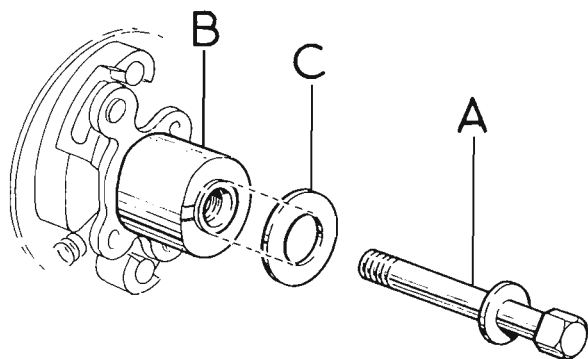

FIG. B.50. *Setting the contact breaker cam.*
Carefully remove the central fixing bolt (A) with washer from the contact breaker cam (B) and temporarily fit another washer (C) having a hole just large enough to clear the cam inner bearing (see Fig. B.50), thus allowing the washer to bear against the top face of the cam.